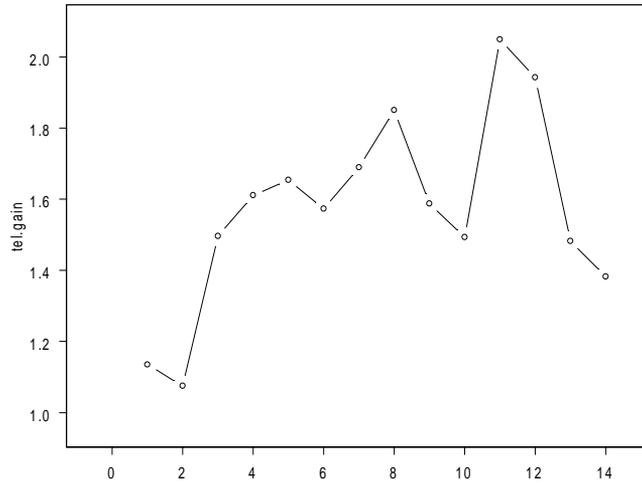

Figure 3.22: Line with isolated points plot of `tel.gain`.
2. Click the **Isolated Points** button  on the **Plots 2D** palette. The resulting graph is shown in Figure 3.22.